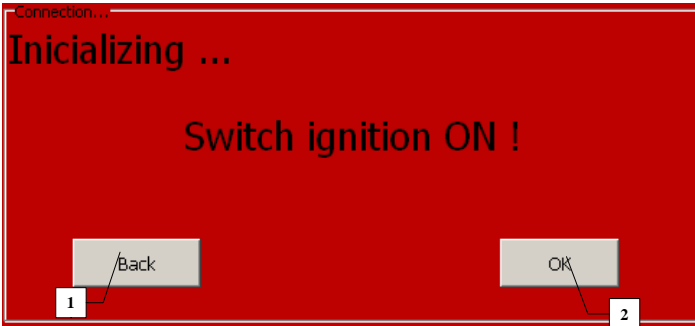

Figure 5.4
If the type and system of the control unit is selected and confirmed by clicking the START button (5), a dialog window (Figure 5.4) telling us to turn the ignition on appears. In the upper part of the screen you can see information